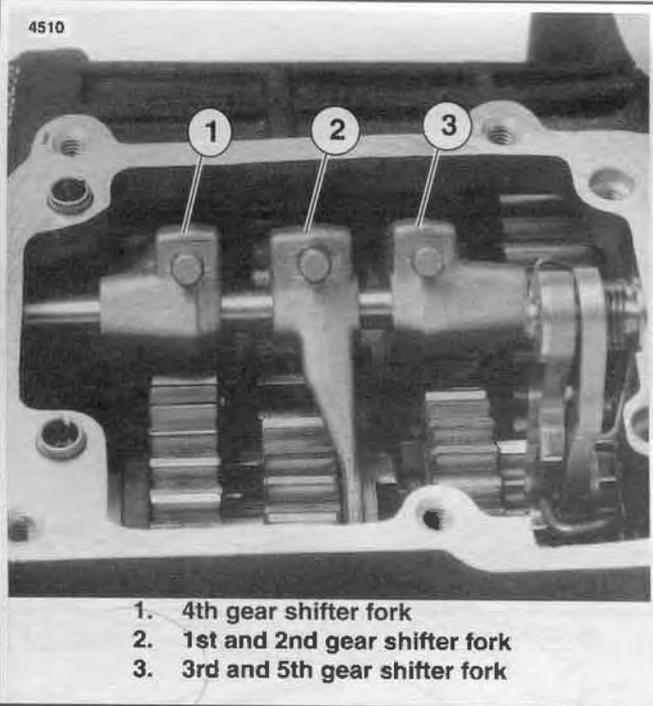

Figure 7-11. Fork Position in Transmission
2. See Figure 7-11. Insert shifter fork (1) into the slot of the mainshaft 1st gear. Insert shifter fork (2) into the slot of the countershaft 3rd gear and insert shifter fork (3) into the slot of the mainshaft 2nd gear.